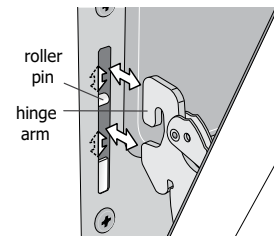

Fig. 4
Refer to Figs. 2 & 3 for correct and incorrect burner cap placement. Once in place, you may check the fit by gently sliding the burner cap from side to side (Fig. 4) to be sure it is centered and firmly seated. When the burner cap lip makes contact inside the center of the burner head you will be able to hear the burner cap click. Please note that the burner cap should NOT move off the center of the burner head when sliding from side to side. Check and be sure that all **oval** style (some models) burner caps are correctly in place on oval burner heads.
5. With the oven door in the broil stop position, lift the oven door hinge arms over the roller pins located on each side of the oven frame (See Fig. 4).
2. Holding the oven door at the same angle as the removal position, seat the hook of the hinge arm over the roller pins located on each side of the oven door frame (See Fig. 4). The hook of the hinge arms must be fully seated onto the roller pins.